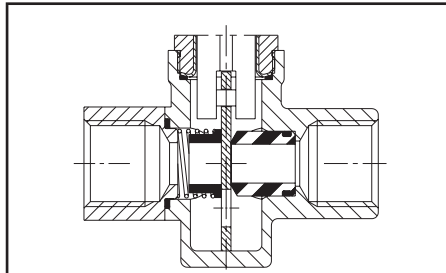
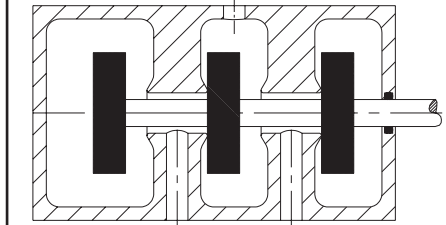
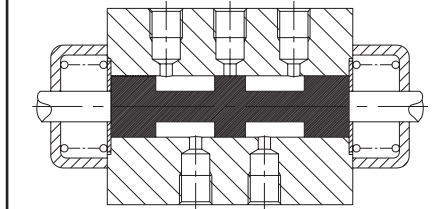

fig. 5a
fig. 5b
fig. 5c
- Monostable function, single solenoid: The solenoid valve returns to its rest position on loss of electrical power (spring return). Slide disc valve construction, 4/2 (Fig. 5a). Poppet valve construction, 4/2 (Fig. 5b). Spool valve construction, 5/2 (Fig. 5c).
- Bistable function, dual solenoid: The actuated or rest position is held, even on loss of electrical power (memory function). Slide disc valve construction, 4/2 (Fig. 5a). Spool valve construction, 5/2 (Fig. 5c).